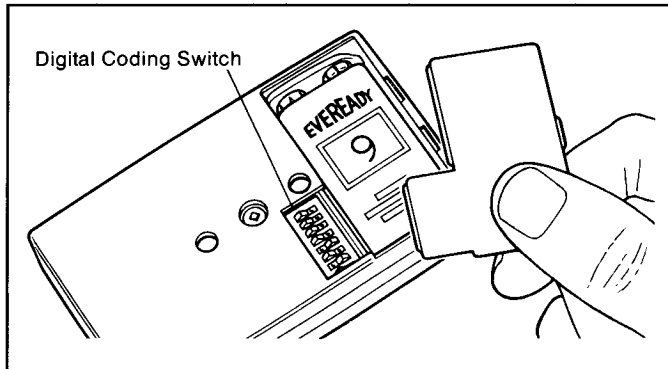

Figure 6. Transmitter Coding Switch.
Step 7: The transmitter's coding switch is located beneath the small access cover on the back of the transmitter case. To open, insert thumbnail or small screwdriver into either of the small slots at the edge of the case and pry upward. The digital coding switch inside has eight keys numbered 1 through 8. (See Figure 6.)